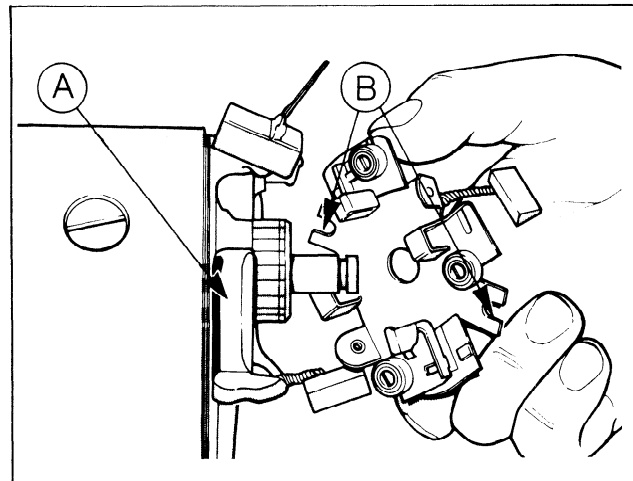

FIG. 10 Position Brush Holder
5. Position brush holder over end of armature. Align location "cut-out" in brush holder with "loop" in field windings (Fig. 10). Brush will be positively located when through bolts are installed.